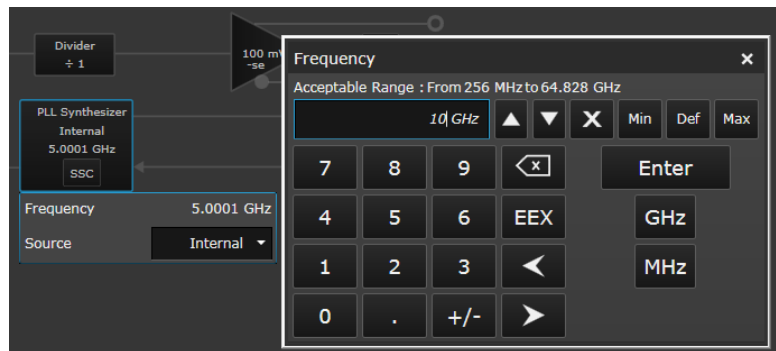

Figure 20 Set frequency to 10 GHz
- d Using the numeric keypad, enter **10** then click on the **GHz** button as shown in Figure 20 on page -49. If your system has a maximum data rate of 8 Gb/s, leave the frequency setting at 5 GHz.